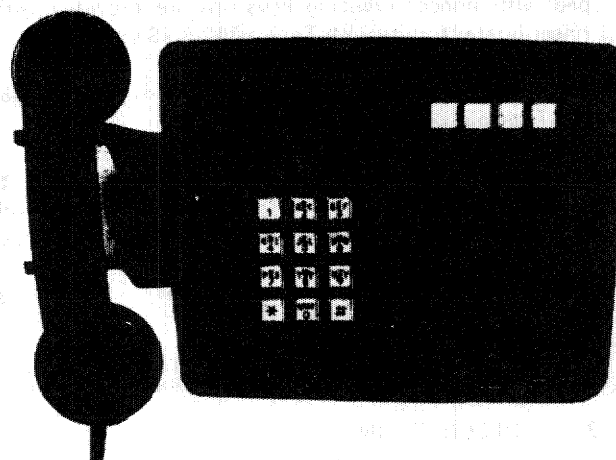

Figure 1. Type 881B Single-Line Speakerphone (Desk Version).
2.01 The Type 881B single line and Type 882B multiline desk and wall speakerphones (Figures 1 and 2) operate in the same manner and will accept the same modifications as the Type 881A and Type 882A speakerphones.
3.01 The speakerphones (Figures 1 and 2) are 11-1/2 inches long by 8 inches deep by 4-1/2 inches high. The
3.15 The Type 881B speakerphone (Figure 1) is equipped with a keystrip containing the following mode-control pushbuttons: